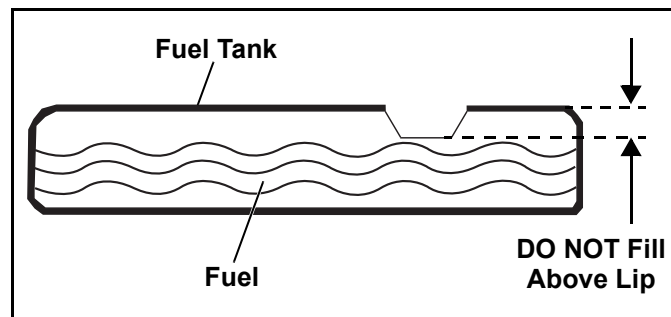

Figure 3-9. Fuel Tank
3. Slowly add gasoline to fuel tank to avoid overfilling. See Figure 3-9.